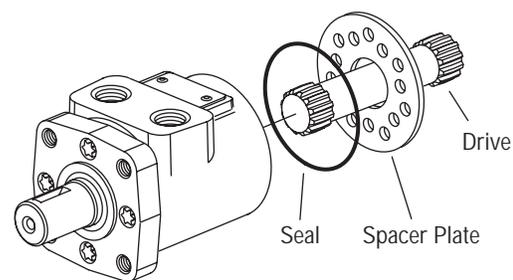

Figure 4
- 8 Remove drive (see Figure 4).